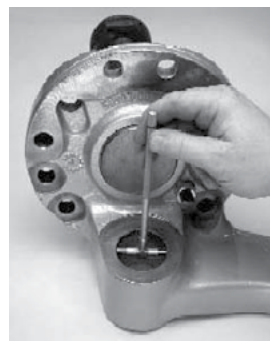

Figure 31.
2. Measure the upper and lower bore in two positions and at two locations. The two positions must be 90 degrees opposed from each other. (See Figures 31 through 32) If the average measurement is more than the knuckle bore maximum diameter specification, replace the knuckle.